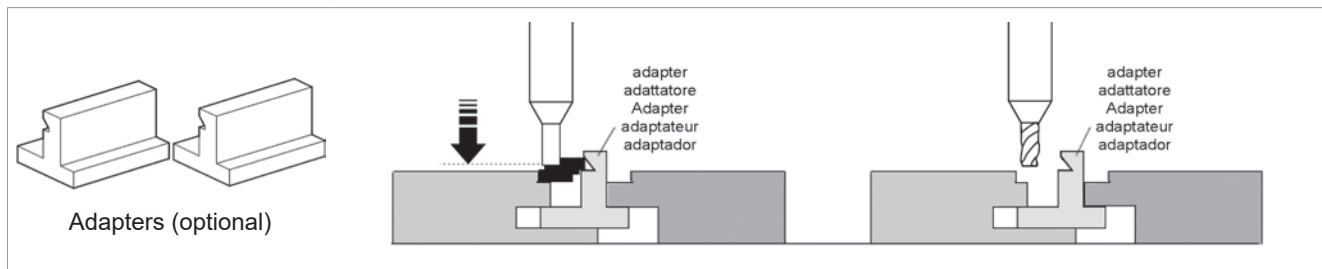

Fig. 31
- 1) Open the clamps by loosening knobs (E) and (E1).
- 5) Secure adapter and key by tightening knob (E).
- 7) Use lever (J) to lower the vertical carriage, without exerting too much pressure, until the tracer rests in the bottom of the cut on the original key (Fig. 31) and secure the spindle at this height by means of knob (R).
- 11) Start the cutting operation by activating switch (Q).